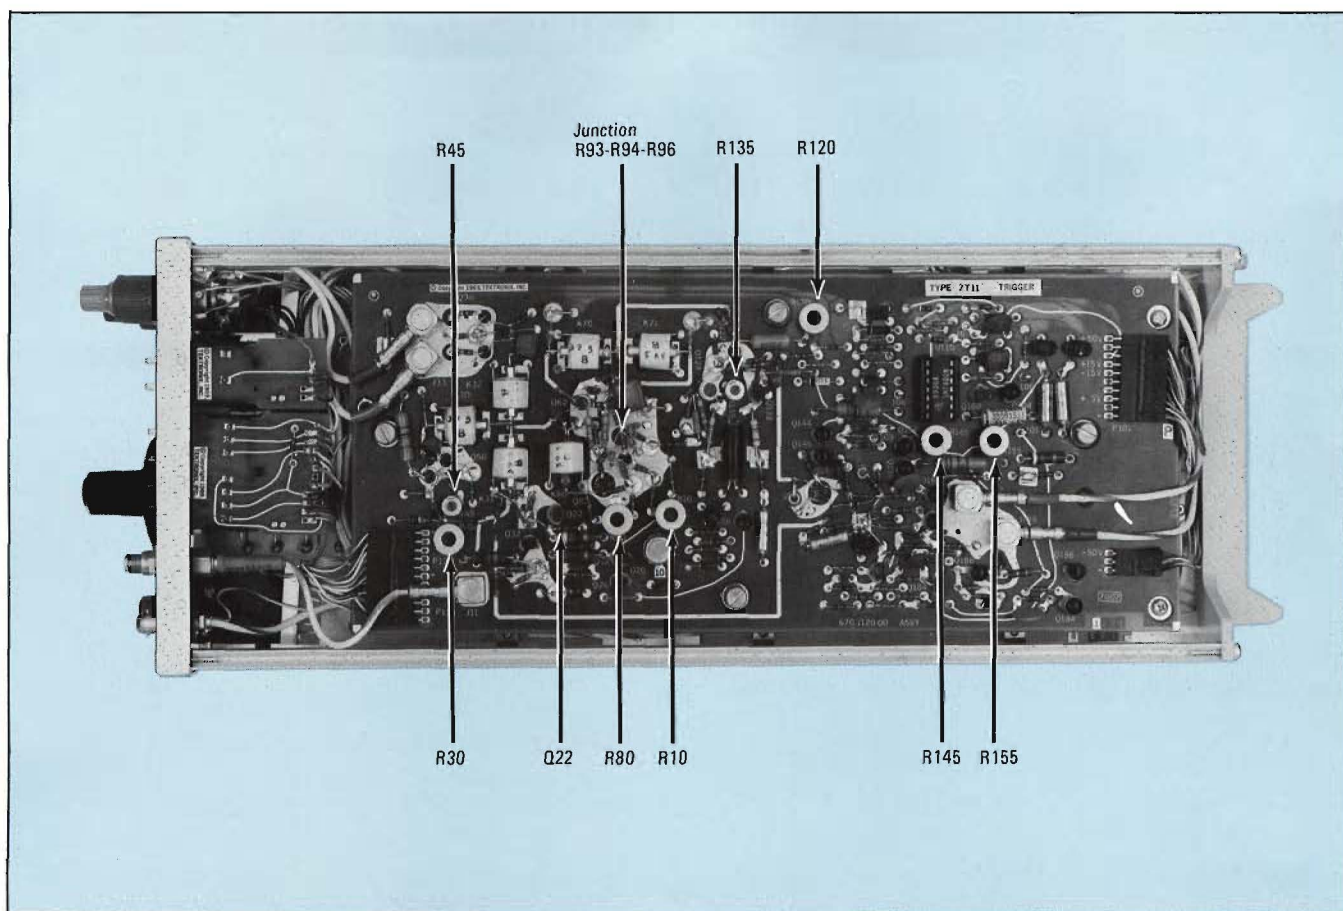

Fig. 2. Location of Trigger test points and adjustments (right side of instrument).
Fig. 2 shows the location of the trigger adjustments and test points referred to in this procedure.
5. Push the X10 TRIG AMP button and 50Ω EXT trigger input button. Monitor the DC voltage at the junction of R93, R94, and R96 (see Fig. 2) with a test scope and a 1X probe set at 50 mV/DIV. Adjust R80 for close to zero volts. Remove scope probe and press X1 TRIG AMP button.
8. Disconnect all signals and set the STABILITY cw and TRIG LEVEL for a free-running display. Connect a coax cable between the EXT TRIG INPUT of the 7T11 and the vertical input to the 7S11; push the HF SYNC button. (NOTE: this will feed a synchronous trigger-kickout signal to the vertical.) Temporarily remove transistor Q22 (see Fig. 2) and set the TIME/DIV to 1 ns to display the kickout signal. Preset R30 about midrange and adjust R10 so the interval between waveforms may be varied between ≤ 3 ns and ≥ 4 ns using the front-panel STABILITY control.